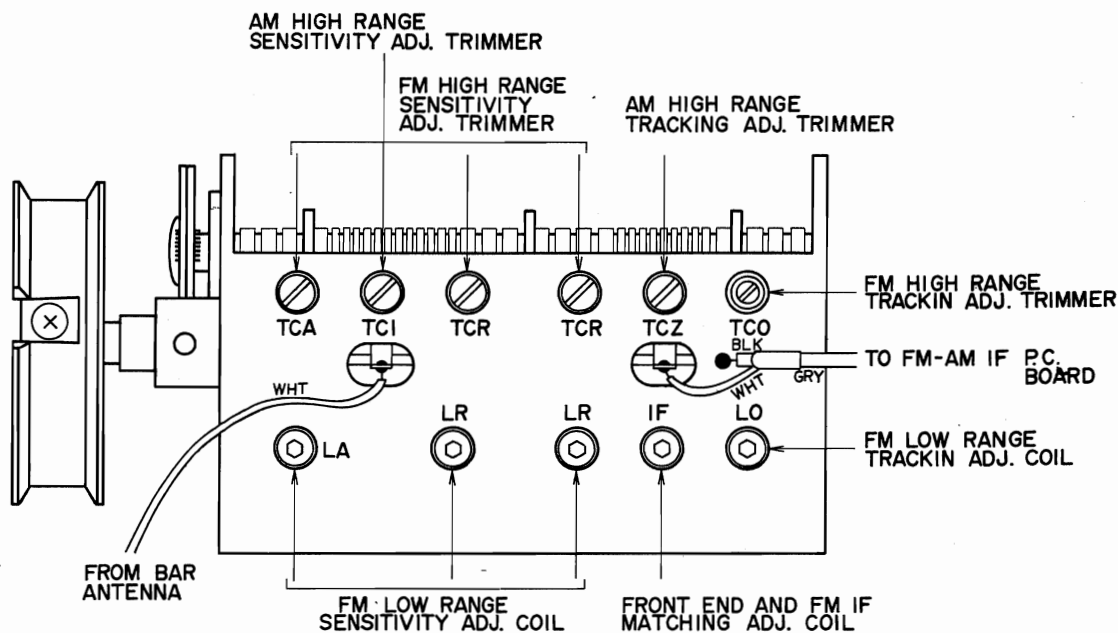

Fig. 18
- 4) Adjust Core Lo of Front End (Fig. 18) until the distortion meter level is maximum and the distortion factor is minimum. (Refer to Chart 4)
- 6) Adjust Trimmer Condenser TCo of Front End (Fig. 18) until the distortion meter level is maximum and the distortion factor is minimum. (Refer to Chart 4)
- 5) Adjust the cores of Front End (Fig. 18) until the distortion meter level is maximum and the distortion factor is minimum. (Refer to Chart 5)
- 8) Adjust Trimmer Condensers of Front End (Fig. 18) until the distortion meter level is maximum and the distortion factor is minimum. (Refer to Chart 5)
- 11) Adjust the upper and lower cores of IF Coil in Front End (Fig. 18) and the lower core of FM-AM IF P.C. Board Discriminator Coil until the distortion meter level is maximum and the distortion factor is minimum. (Refer to Chart 5)
- 6) Adjust Front End Trimmer Condenser in Fig. 18 until the distortion meter level is maximum and the distortion factor is minimum. (Refer to Chart 7)
- 8) Adjust Front End trimmer condenser in Fig. 18 until the distortion meter level is maximum and the distortion factor is minimum. (Refer to Chart 8)